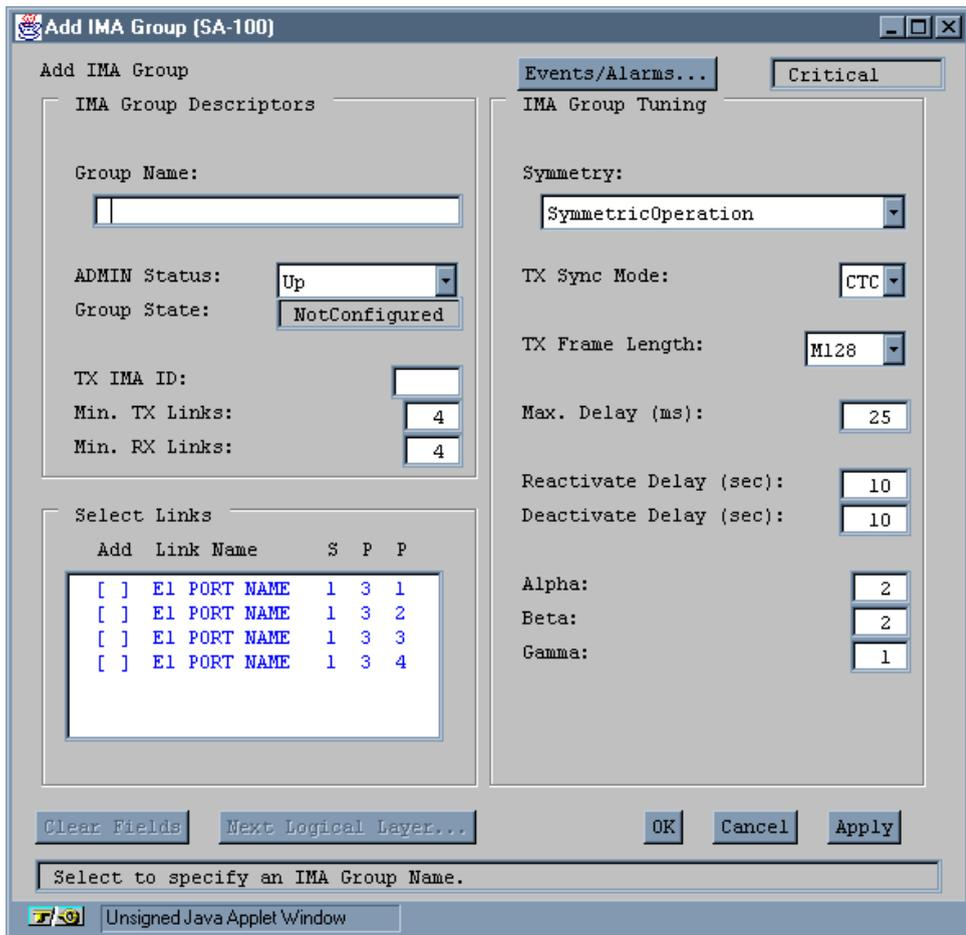

Figure 4-9. Add IMA Group Window
2. Select the IMA Group button. The Configure IMA Groups window appears (Figure 4-9 on page 4-24):
3. Select the Add IMA Group button to create a new IMA group. The Add IMA Group window appears (Figure 4-9):